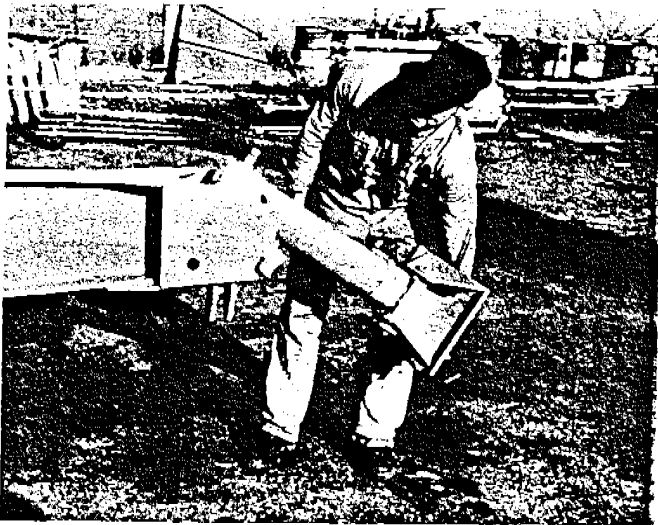

Fig. 10
- Fold the landing assemblies down into position. PIN IN PLACE. (Fig. 10)